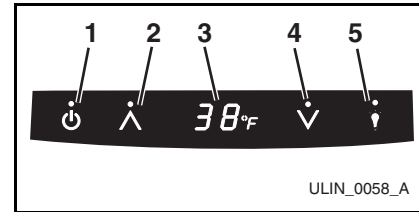

Figure 9
- a. Touch and hold the ON/OFF button (**Figure 9, 1**).
- b. The display (**Figure 9, 3**) will switch from ICE to OFF to confirm that the ice maker is off.
- b. Touch and release the LIGHT button (**Figure 9, 4**) three times, then release the ON/OFF button (**Figure 9, 1**).
- c. The display (**Figure 9, 3**) will show "CL" to confirm the beginning of the cleaning cycle.